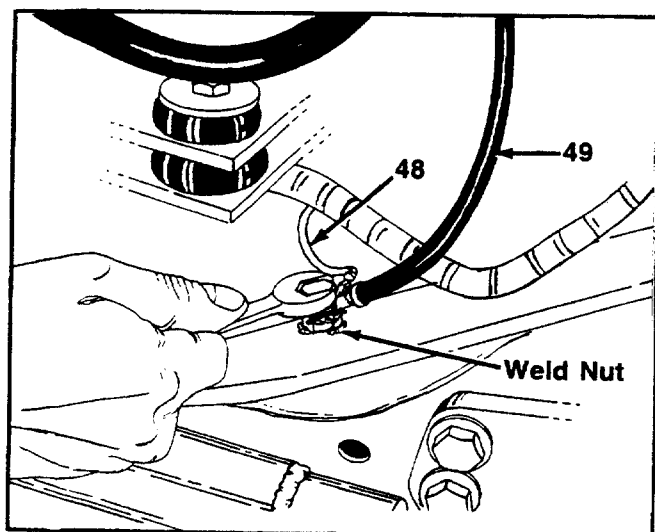

FIGURE 25.
28. Remove the battery-to-ground cable and small green wire from left hand side of tractor frame. See figure 25.
Bolt and star washer at weld nut on frame must make a good ground (contact) upon reassembly. See figure 25.